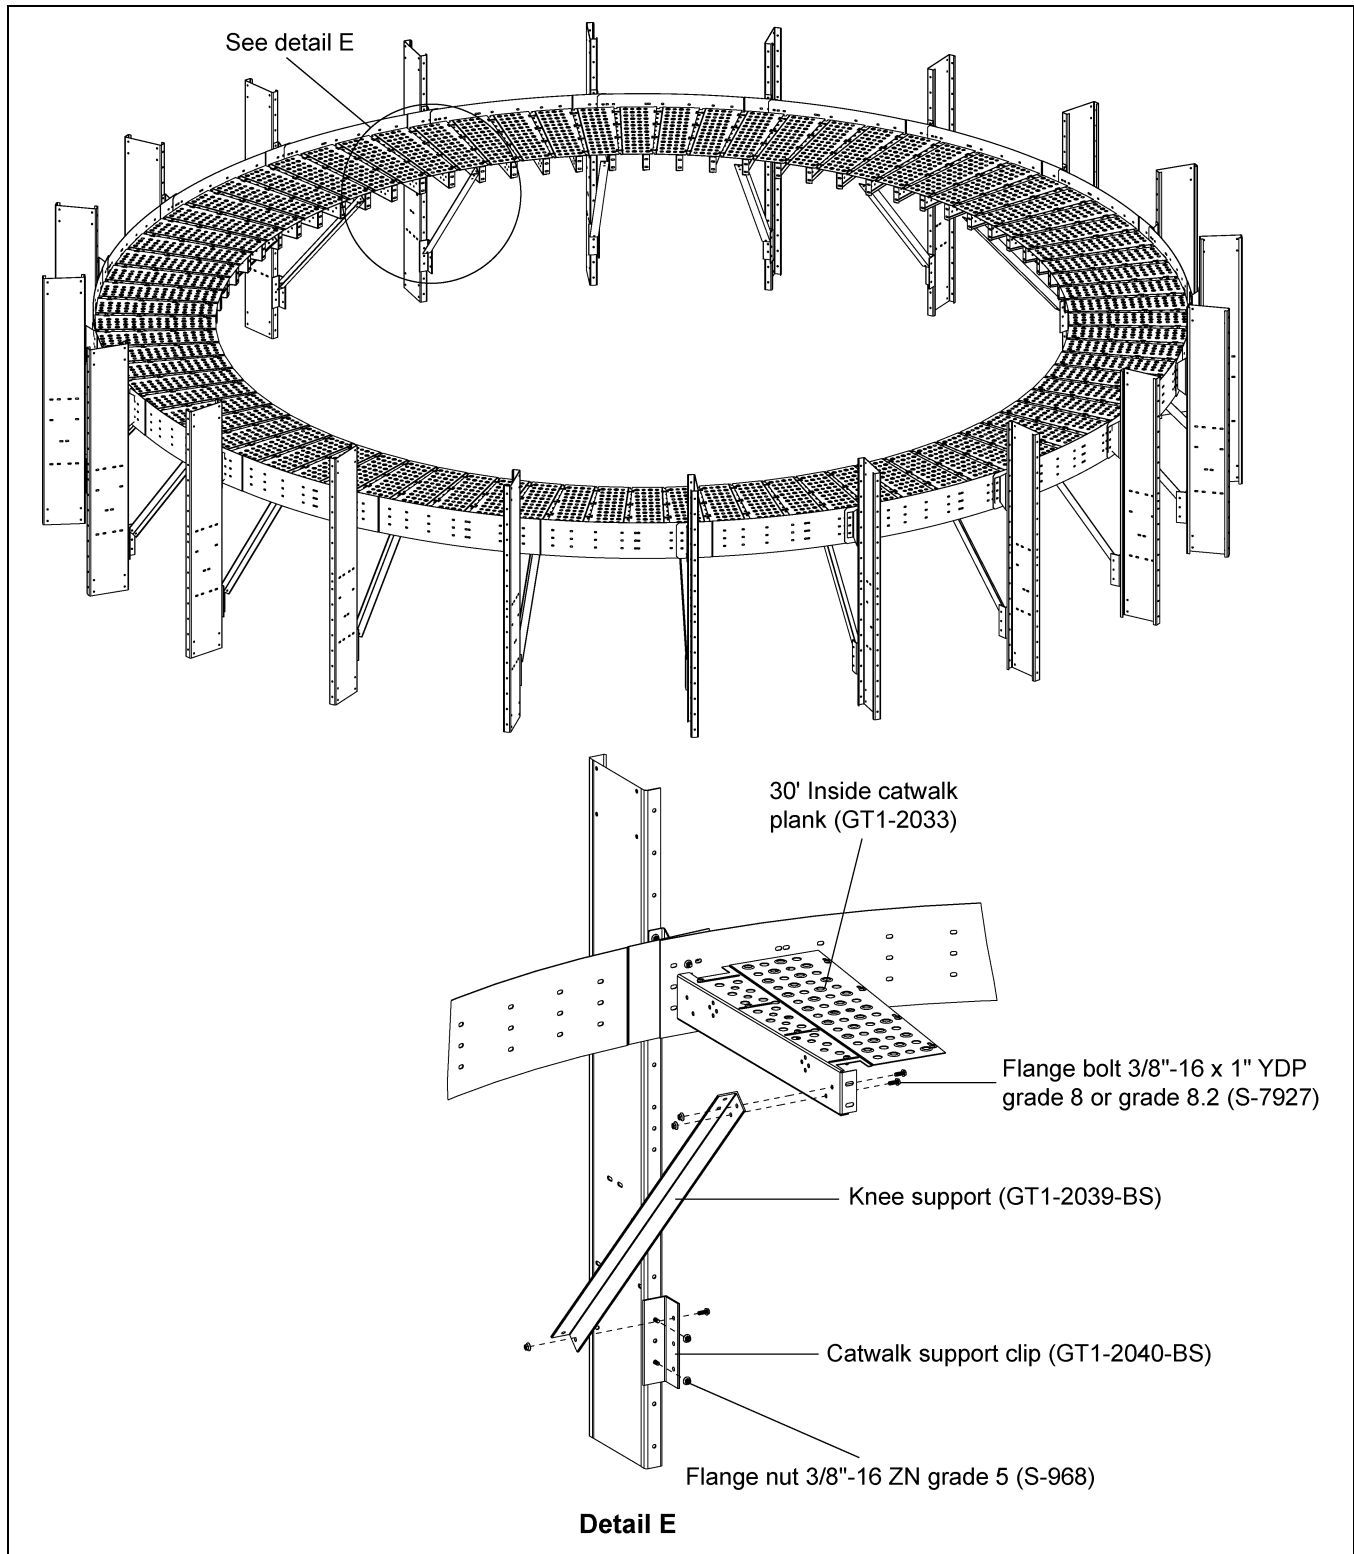

Figure 5I
1. Install the knee support (GT1-2039-BS) around the dryer between the catwalk support clips (GT1-2040-BS) and planks (GT1-2060) using 3/8"-16 x 1" YDP grade 8 or grade 8.2 bolts (S-7927) and 3/8"-16 ZN grade 5 nuts (S-968). (See Figure 5I.)